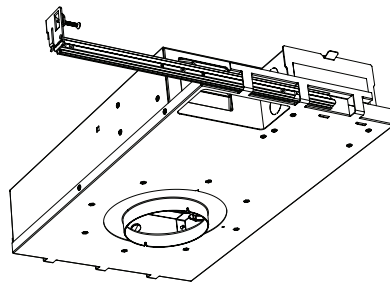

fig. 2
- Insert the inner nailer bar into the three housing clasps on the end of the housing. Make sure the screw is on top (see fig. 2).